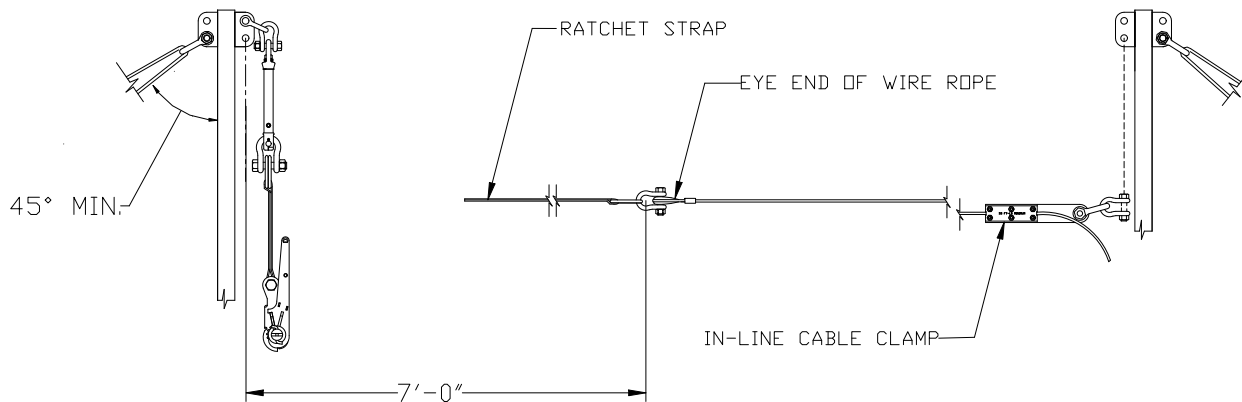

Figure 2
NOTE: The Ratchet Tensioner of the tie-back cable assembly MUST be placed so that the angle formed by the surface of the bridge beam and the tie-back cable is 45° OR MORE when measured from the vertical. This means that the Ratchet Tensioner MUST be attached to a loop of rebar that is located a distance away from the Receiver which is AT LEAST as far away as the Stanchion is tall (for a 60-in tall End Stanchion, the Ratchet Tensioner MUST be attached to a rebar loop located a MINIMUM of 60-in. away from the Receiver to ensure that the tie-back angle is 45° or more when measured from the vertical, see Figure 2).
16. Position the eye end of the wire rope so that it is about 7-ft. (see Figure 2) away from the location of one of the end stanchions.
19. On the mark you have measured off, place the wire rope into the grooved lower plate of the In-line cable clamp. Insure that the end of the cable clamp with the hole in it is placed towards the free end of the wire rope (see Figure 2).